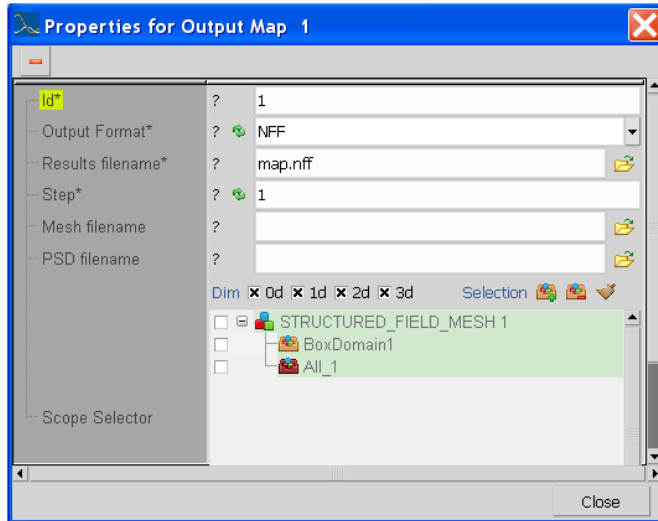

Figure 10.80: Output map request
- Output Map: defines the output parameters of map results, as shown in Figure 10.80. Refer to Section 6.3.10 in this User's Guide and to ACTRAN User's Guide Section 10.9 of Volume 2, 10.15 of Volume 2 for more information;